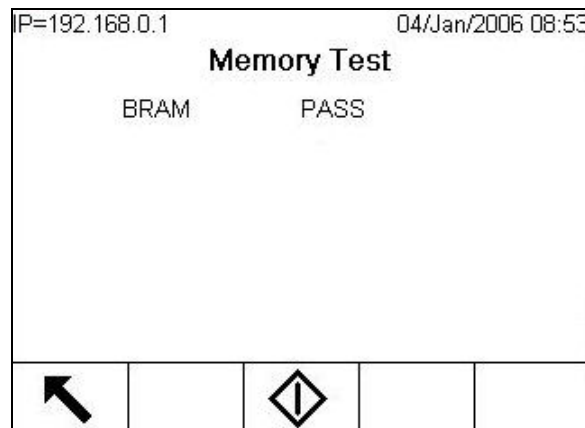

Figure 3-16: Memory Test Screen
- Memory Test (Figure 3-16)—To test the BRAM, press the START \diamond softkey. When testing is complete, press the EXIT softkey \blacktriangleleft to return to the menu tree.